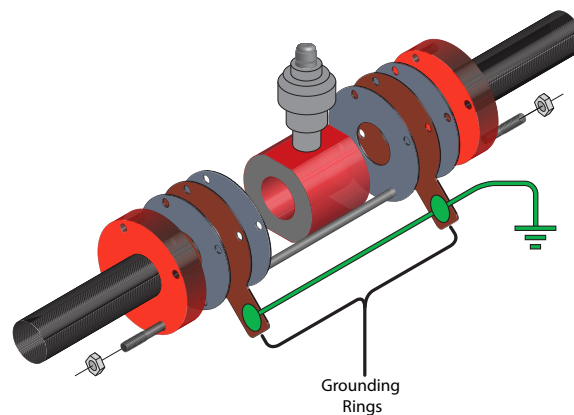

Figure 13: Grounding ring installation
4. Use grounding rings when metal pipes are used in conjunction with this meter. See Figure 13.